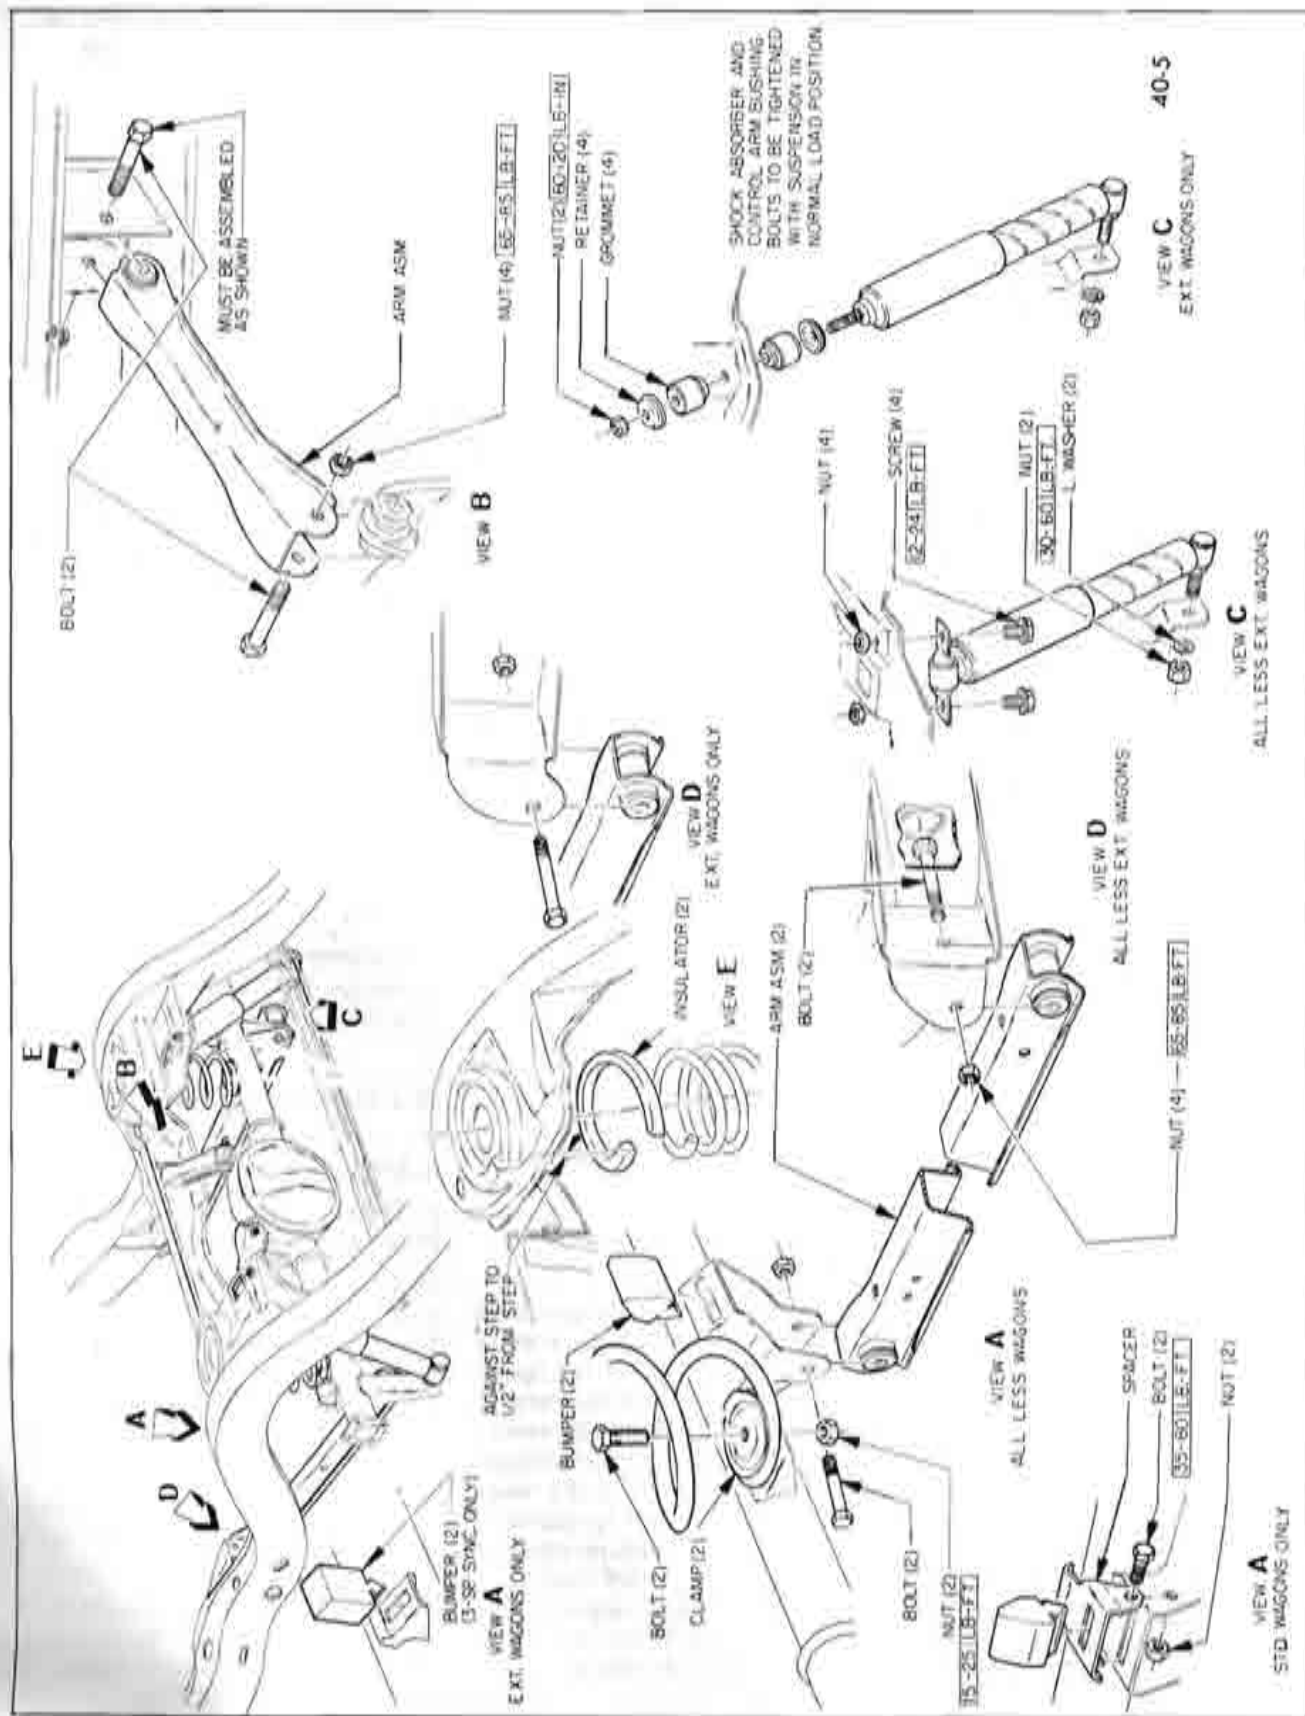

Figure 40-5—Rear Suspension Details
3. Remove bolt and nut that hold spring clamp to axle tube bracket. See Figure 40-5.
2. Raise rear axle and rotate spring into position in upper seat. See Figure 40-5. Tighten clamp nut to 25 lb. ft.